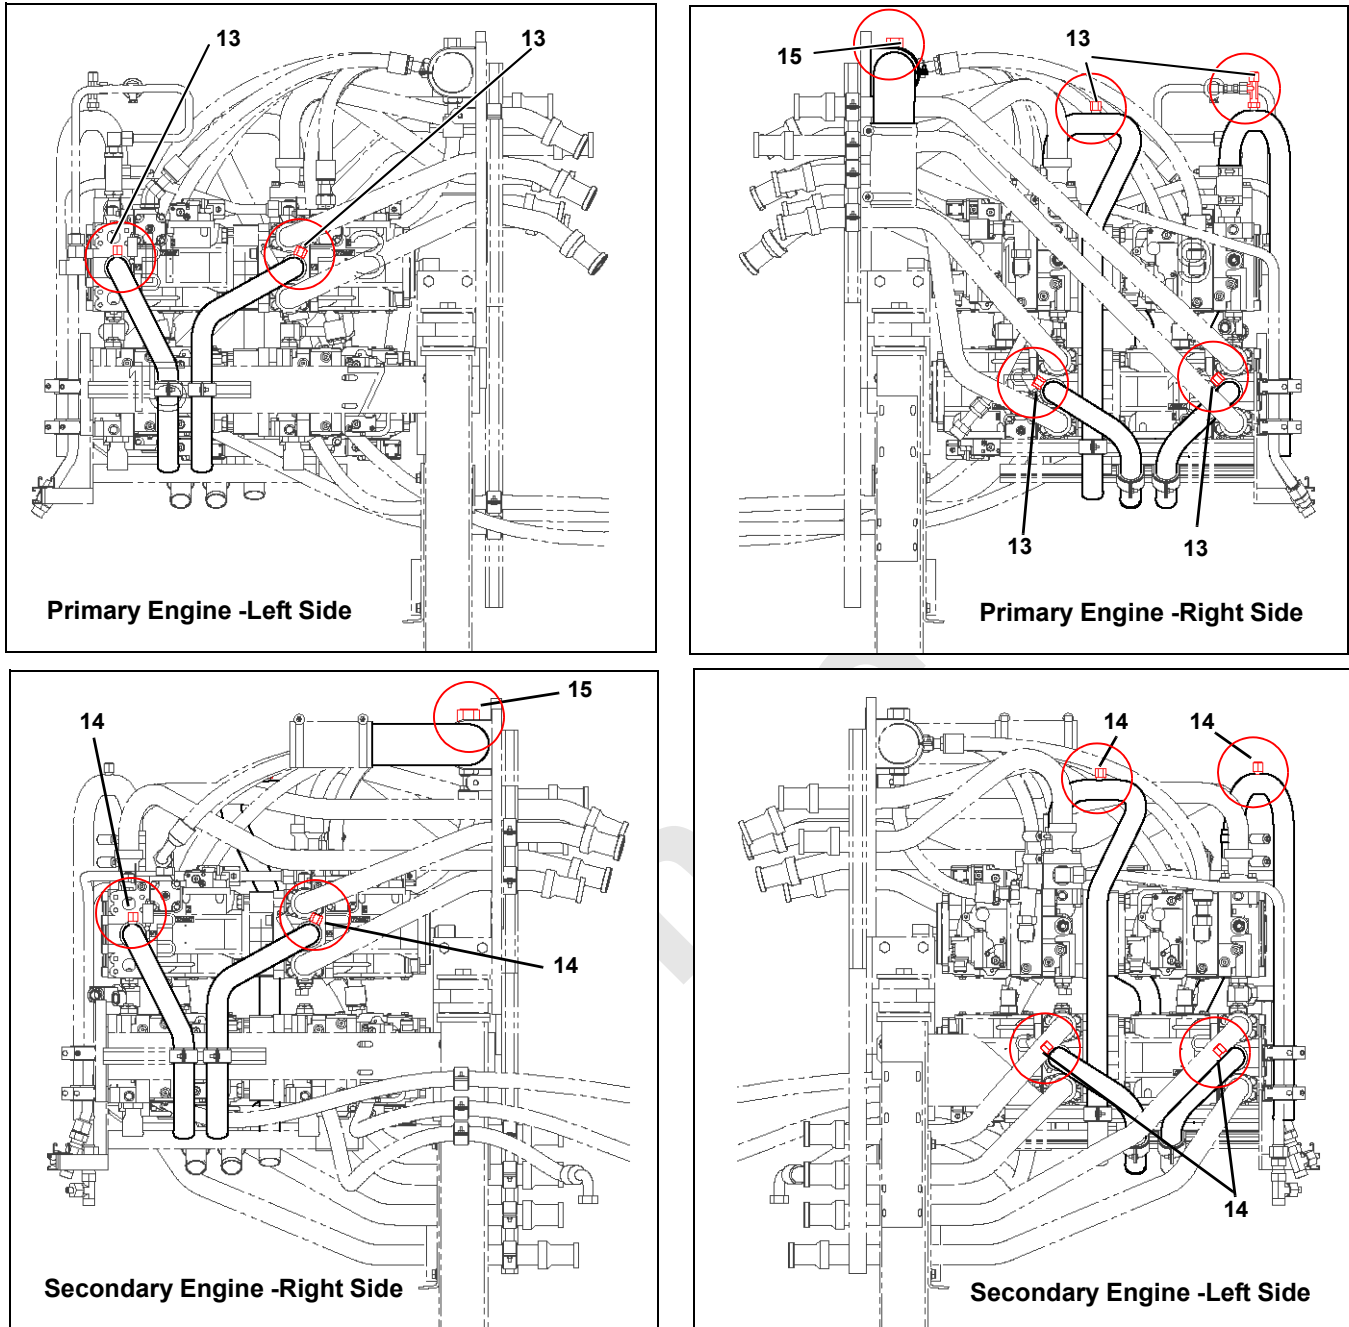

FIGURE 2-14
14. Determine vent bleed ports (Figure 2-14), and remove plugs or caps.
19. To fill highest piping apply 2 psi (0.14 bar) owner supplied air pressure to air valve (5, Figure 2-27) on hydraulic tank, while observing highest vent bleed ports (Figure 2-14).